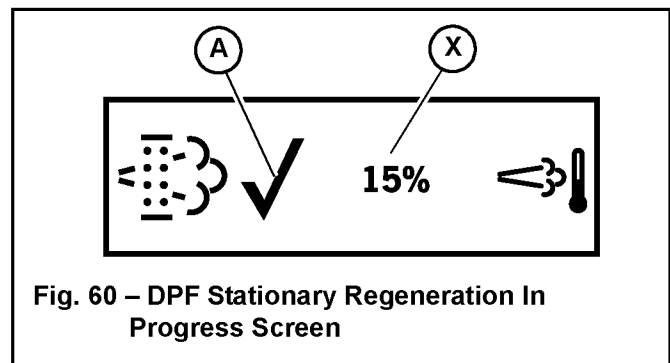

Fig. 60 – DPF Stationary Regeneration In Progress Screen
NOTE: The DPF Stationary Regeneration Progress Screen (Fig 60) displays with checkmark (A) confirming that that stationary regeneration has started.
8. Stationary regeneration progress is displayed in the center (X, Fig 60) of the DPF Stationary Regeneration In Progress Screen. Engine speed automatically advances as required for the stationary regeneration process.